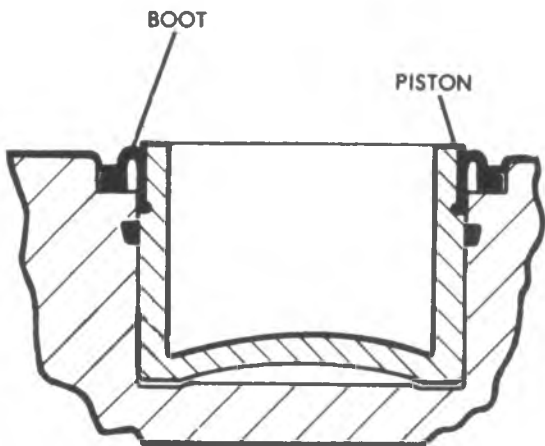

Fig. 5-24--Boot Installation
2. Examine the inside of the caliper for evidence of fluid leakage. If leakage is noted, the caliper should be overhauled. Wipe the inside of the caliper clean, including the exterior of the dust boot. Check the boot for cuts, cracks or other damage. Make sure that the boot is properly engaged in the groove in the piston and also in the caliper counter-bore (fig. 5-24).